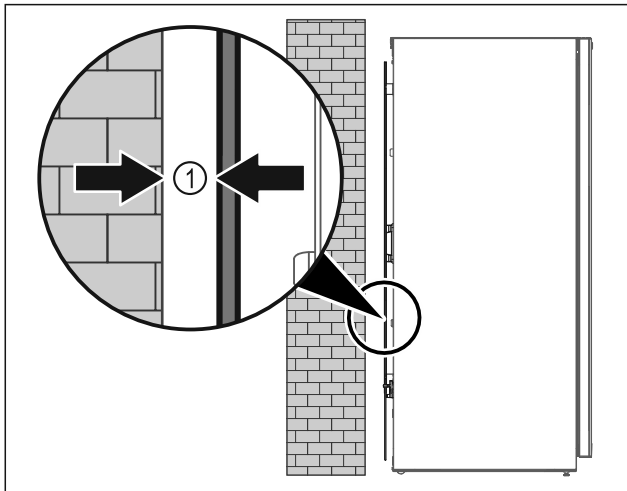

Fig. 7
- Set up the appliance either free-standing or directly against a wall at a minimum distance of 5 mm Fig. 7 (1).